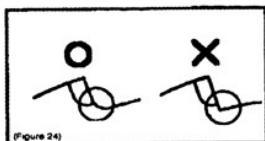

Figure 24
- ✧ Sharpen each cutting edge and make sure the bottom corner is rounded. (Figure 24)